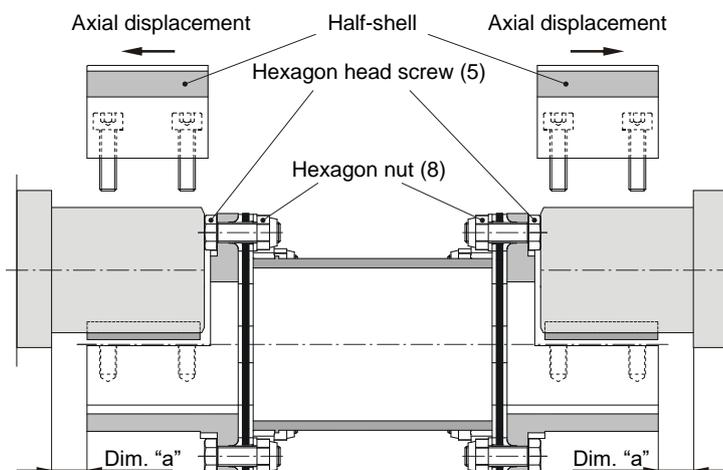

Fig. 8
On Type 951.8_0, radial installation is only possible if the half-shell is axially moved by a minimum dimension "a" (Fig. 8 / Table 10).
- c) Place the coupling from above onto the shafts and pre-assemble it with the respective half-shells (Fig. 8).